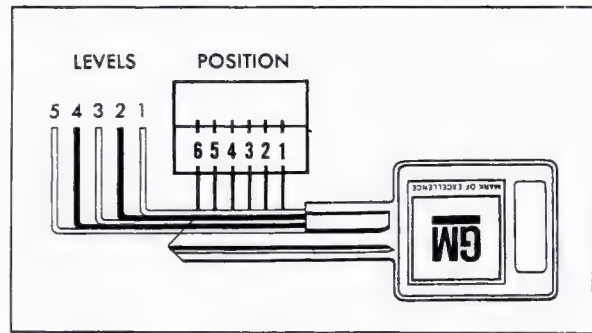

Fig. 9-50 Key Code Diagram
When it is necessary to assemble a new lock cylinder to agree with a key code number, install the proper tumblers into their respective slots as indicated by Key Code Diagram, Fig. 9-50 or a code list.
1. Lay the key on the Key Code Diagram, Fig. 9-50, with the key outlined by the diagram as accurately as possible.